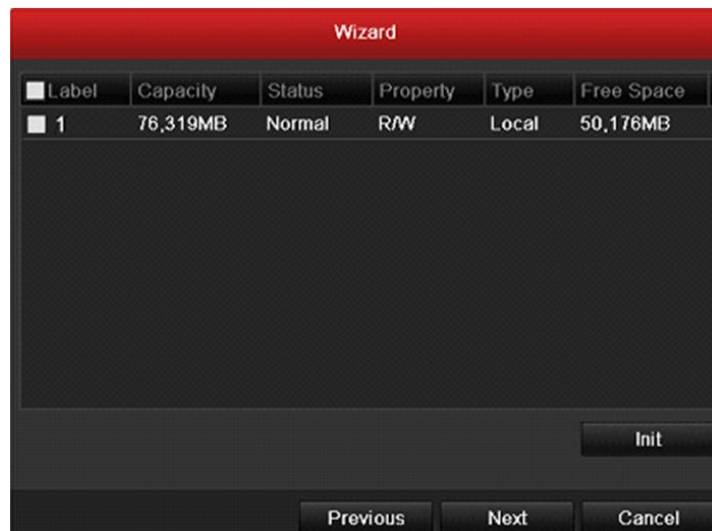

Figure 2.7 HDD Management
8. Click **Next** button to enter the **HDD Management** window, shown in Figure 2.7.